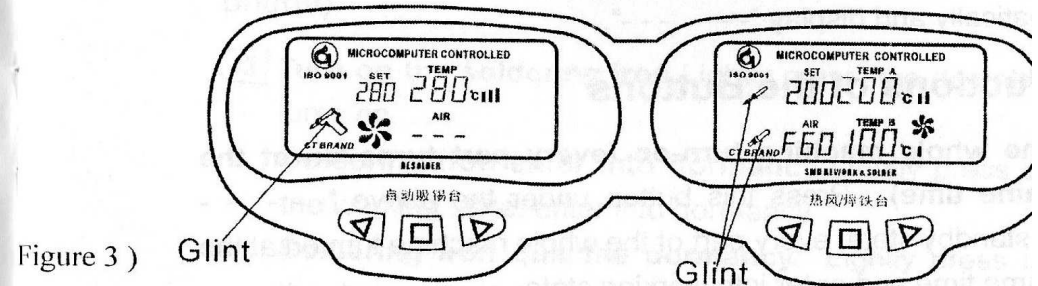

Figure 3 )
⑦Hot Blow Rework Station wind volume class
⑧Hot Blow Rework Station actual temperature
⑨Hot Blow Rework Station simulative temperature symbol
⑩Hot Blow Rework Station air-pump simulative fan
Remark: (1) Simulative temperature bar symbol, it corresponding temperature as below (fig 3):
(Fig.3)